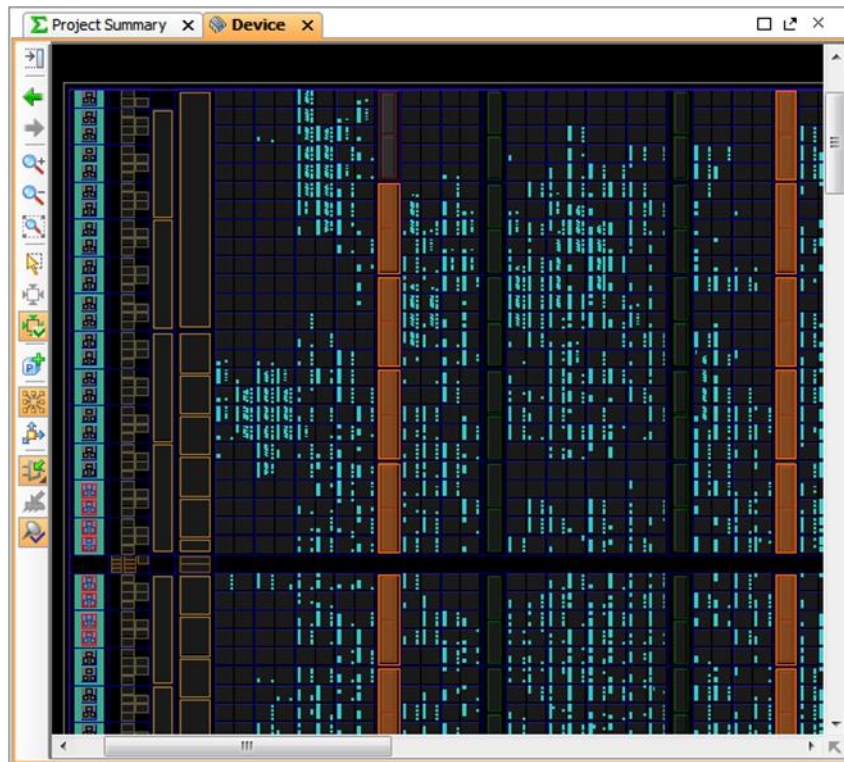

Figure 37: Fixed Block RAMs
8. Zoom in and notice that "Fixed" cells display in a different color than unfixed cells, as seen in FIGURE 37.